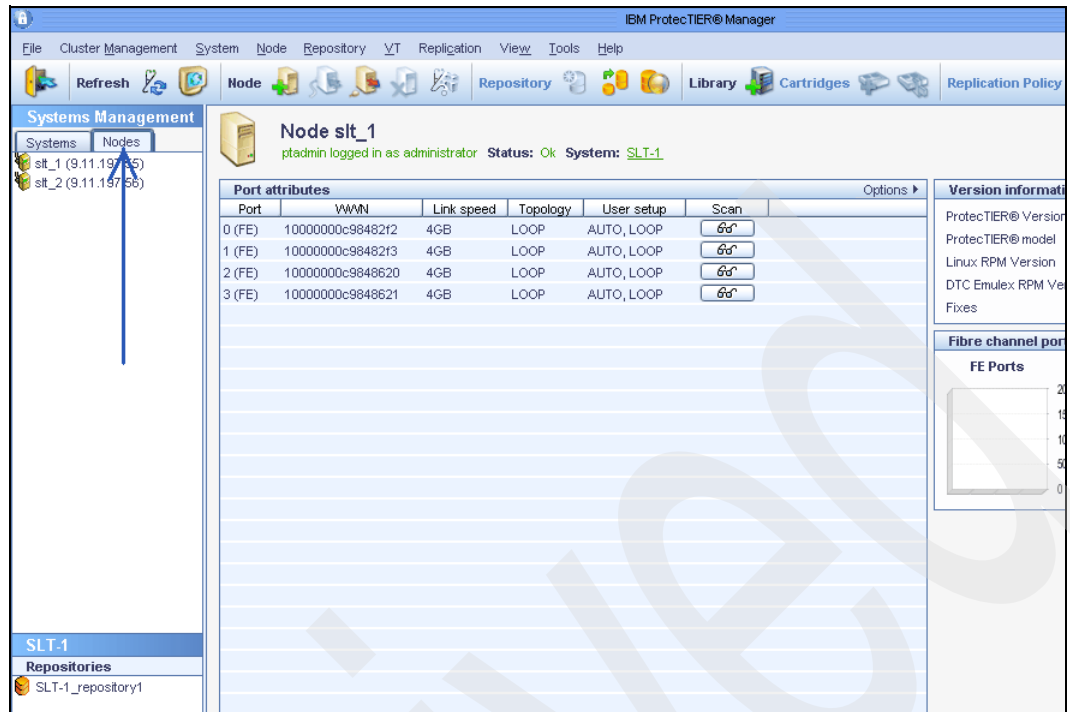

Figure 8-31 ProtecTIER Manager Nodes
1. Click the folder **Nodes** on System Management (on the left side) to select a node where you will generate a status report (see Figure 8-31 on page 215).